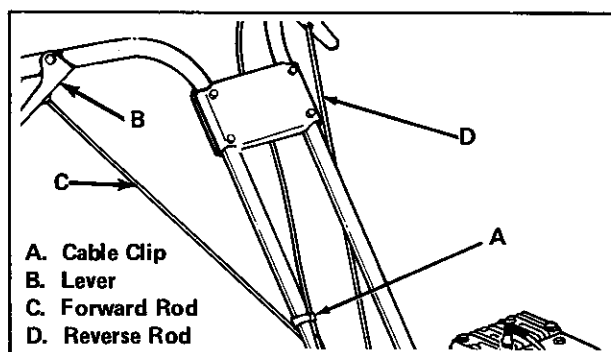

Figure 23. Cable Clip
4. Install cable clip (item A, figure 23) to hold throttle cable on right handle bar.
1. Insert forward control rod (item C, figure 23) through control lever (item B).
1. Insert reverse control rod (item D, figure 23) through control lever on the left handlebar.